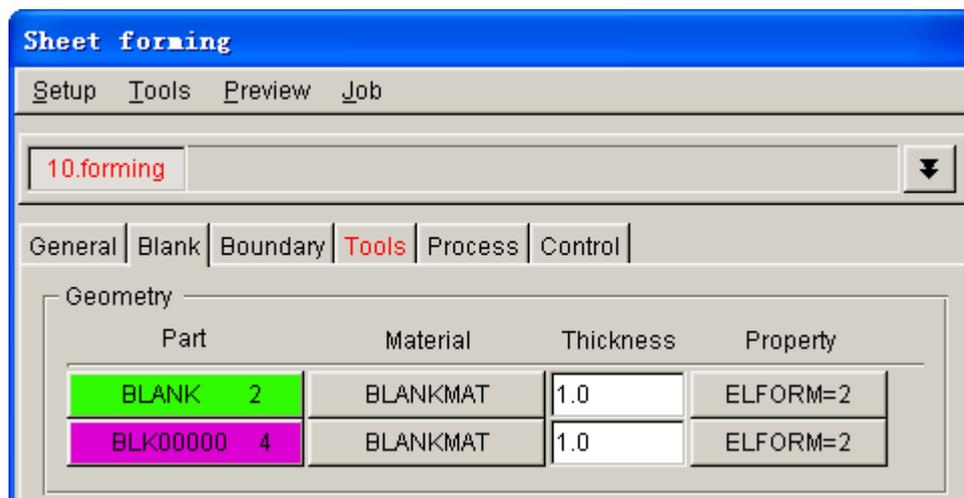

Figure 5.32 Blank definition interface
- Click **Exit** to return to the Blank definition interface illustrated in Figure 5.32.
Once the **BLANK** part is defined, the program automatically assigns a default blank material and relative property. You can also click the **BLANKMAT** button illustrated in Figure 5.32 to edit material definition.